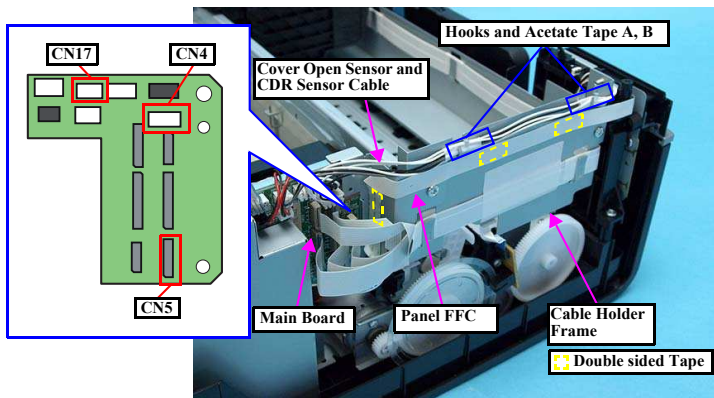

Figure 1-29. Removing the Panel Assy (1)
2. Peel off the double-sided tape that secures the Panel FFC to the Holder Frame and release the Panel FFC. (Fig. 1-29 (p.30))